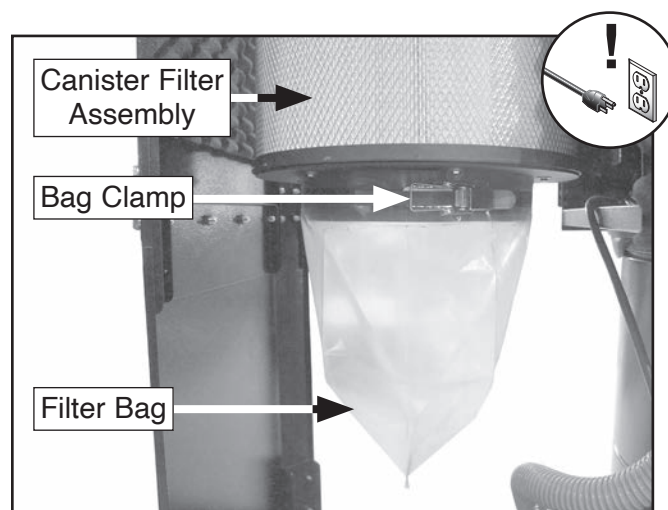

Figure 75. Filter bag attached to canister filter.
3. Release bag clamp from around bottom of canister filter assembly (see **Figure 75**), and remove filter bag.